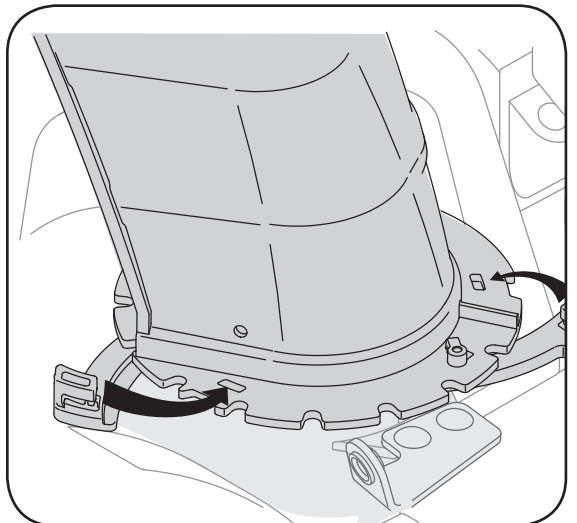

Figure 3-4
4. Close the flange keepers to secure the chute assembly to the chute base. The flange keepers will click into place when properly secure. See Figure 3-4.